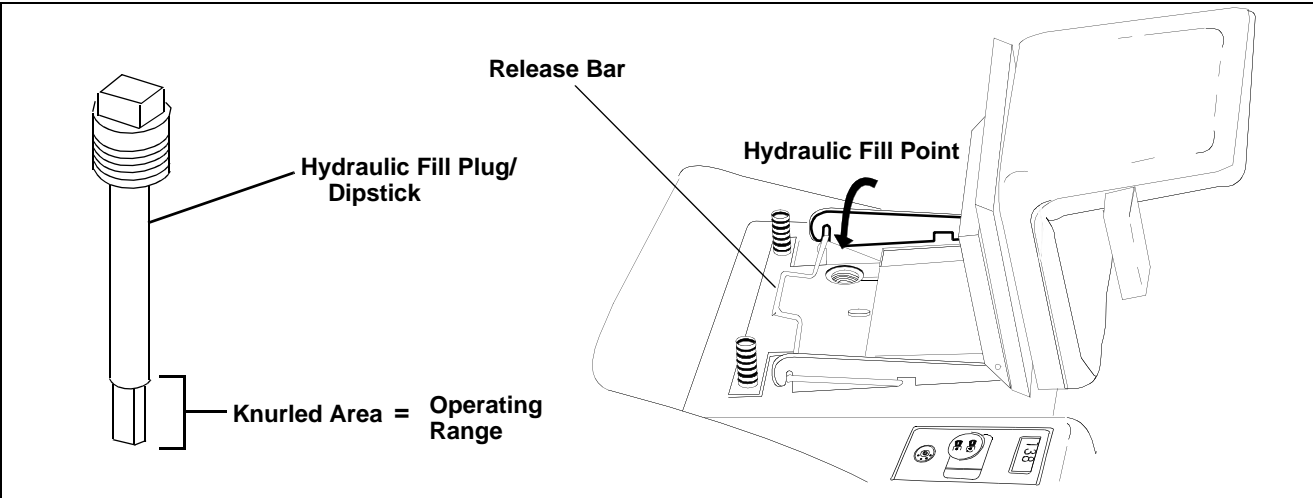

Figure 15
1. Flip seat up. (See Figure 15)